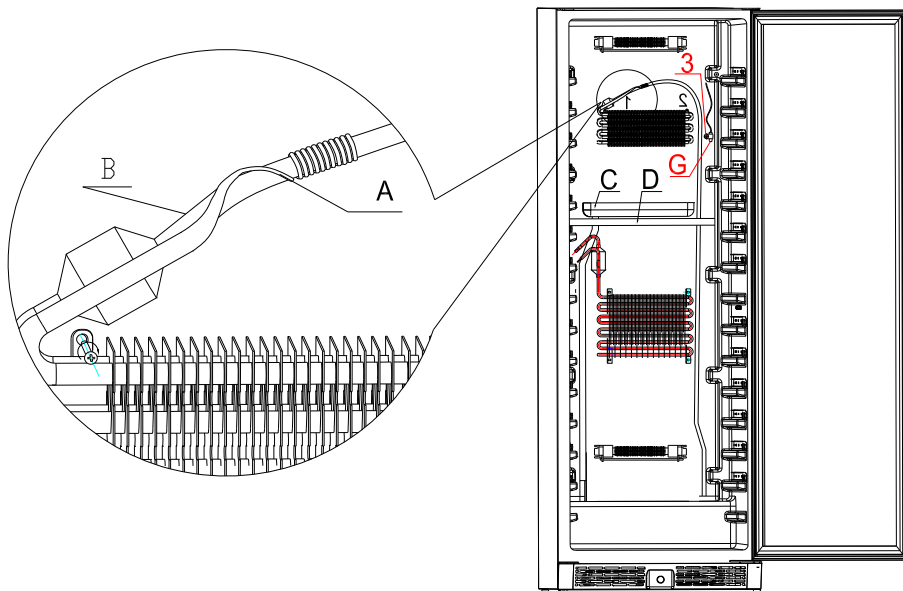
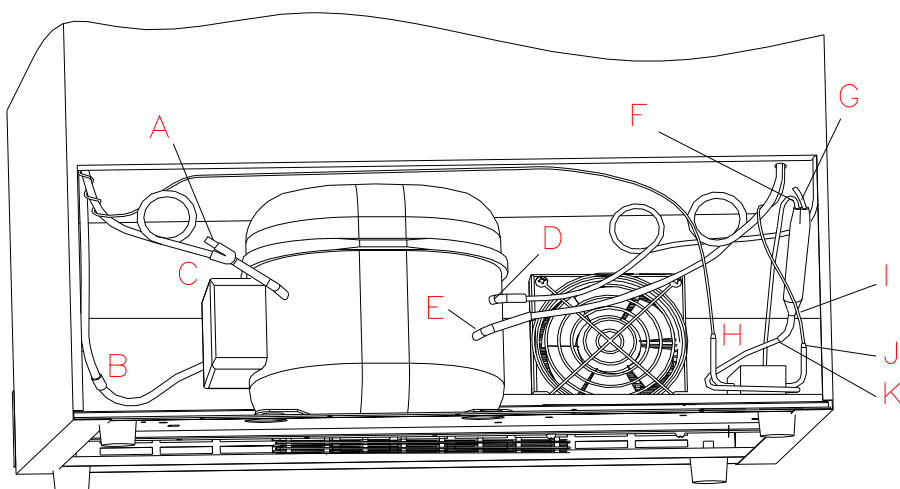

Fig. 3
Fig. 4
Statement: (Fig.4 ) shows the correlative diagram Fig.4
Turn on the unit and check there is electricity current flowing to the compressor using a caliper type Amp meter, the current should be within 0.6 to 2 Amps. If the readings are not in this range, turn off and cut off the pipes (See Fig.4 showing D) and the process pipe (See Fig.4 showing A.) from the compressor, then turn the unit on again (**in this case only run the compressor for a few minuets, so as to avoid the compressor absorb moist air**) and recheck the current and if there is pressure at the outlet pipe. If the current reading is still out of range specified above and no pressure from the compressor outlet, replace the whole compressor.
b.Infill 0.8-1MPa nitrogen,and check the welding point point around the compressor (→5) (Fig.4 ) with soap water.If there isn't any leakage,please take apart the airduct board(→3、 →4) (Fig.2.1 & Fig.2.2 & Fig.2.3 & Fig.3) and check the welding point aroudn the evaporator(→4)(Fig.3 ).
1>. Using the vacuum pump form a vacuum in the system, via the joint of the low-pressure process pipe on the compressor (→5) (Fig.4 showing A) , the high-pressure pipeline is on the process pipe of the filter (Fig.4 showing G). Apply the vacuum pump for approximately 20 minutes. Until the vacuum is lower than 100Pa. Then solder the compressor process pipe of the filter. Keep the vacuum running while soldering this joint
2>. Fill Cooling system with refrigerant via the process pipe (→5) (Fig.4 showing A). (The refrigerant is R134a. Regarding refrigerant quantity Please refer to the instruction at back label of wine cellar). Then solder the compressor process pipe after the system is charged with refrigerant.
d. The scene after taking away the airduct board show below. the evaporators are same. (Fig.3)
○ Front side joints location. See (Fig.3)
○ Rear side view of the joints position (Fig.4)
- 1>. Heat the soldered joint of the capillary (“A” of Fig.3), then remove the capillary from the evaporator and smooth the end with an eraser. (Caution: do not allow any particles into capillary unit)
- 2>. If the capillary touch the inner cabinet and the air duct board, adjust the position of the capillary and add the incabloc plastic. (→4) (Fig.3)